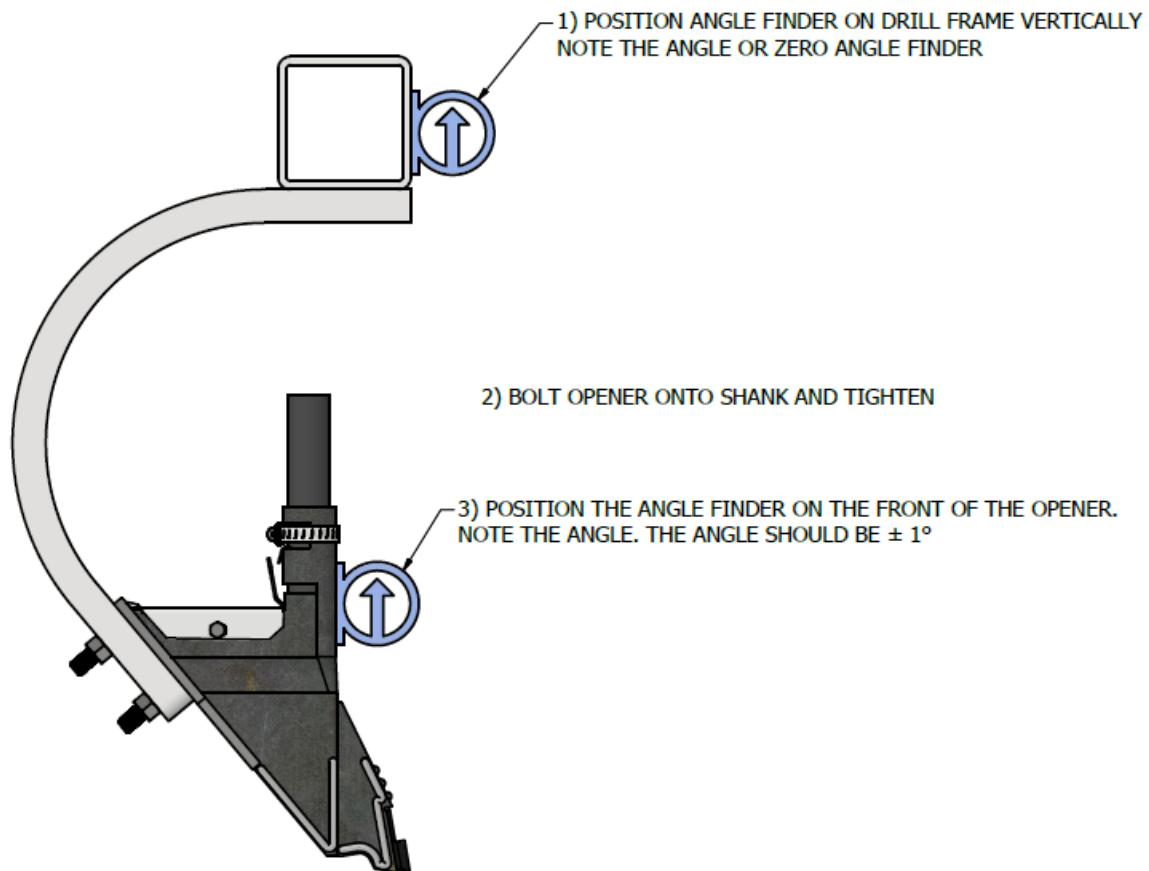

FIGURE 1: ANGLE MEASUREMENT PROCEDURE
- 1) Bolt openers to shank using the supplied carriage bolts, washers, and nuts, remembering to check the shank angle as described in Figure 1. Install openers with the wings oriented to the center of the drill.